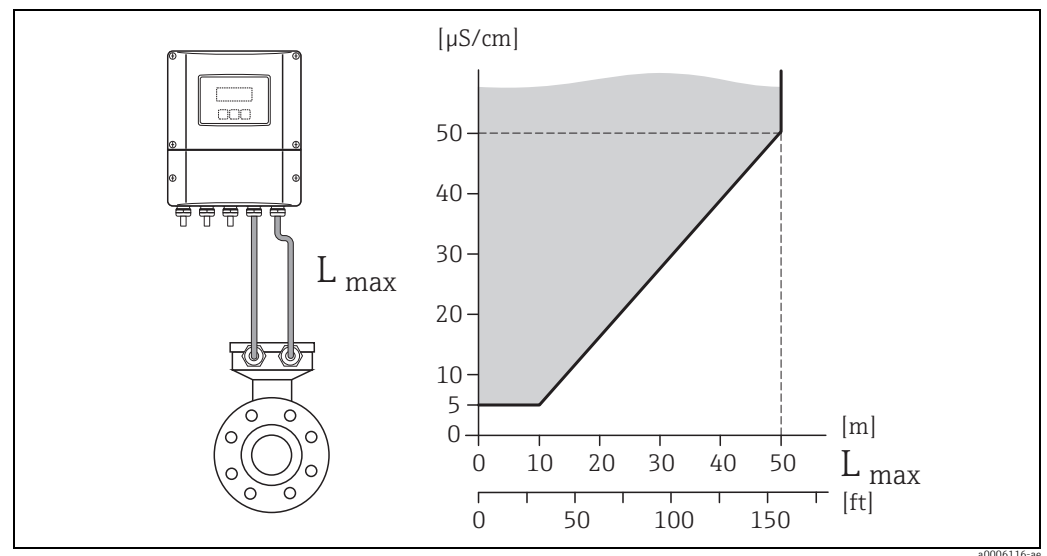
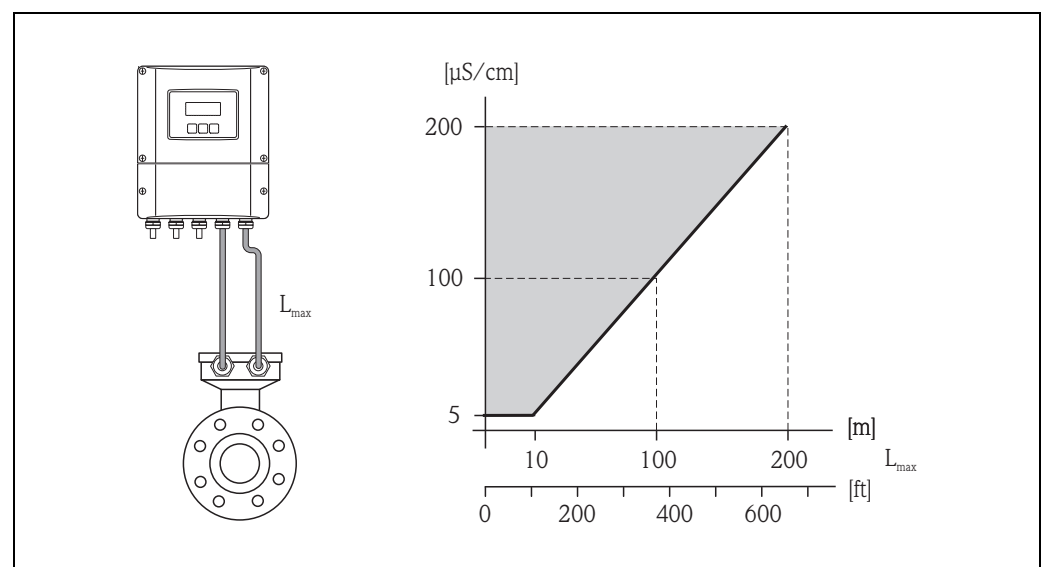

Fig. 16: Permitted lengths for connecting cable in remote version, as a function of the conductivity of the fluid
Fig. 17: Permitted lengths for connecting cable in remote version, as a function of the conductivity of the fluid
- The permissible cable length  $L_{\max}$  depends on the fluid conductivity (Fig. 16, Fig. 17).